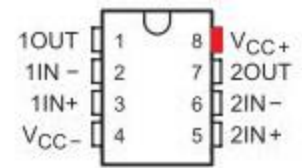

Figure 7a: Port 8 - attach your positive voltage supply here
- Take the wire that is plugged into the positively charged node and attach it to port 8 of the op-amp. The top right port denoted in red in Figure 7a.